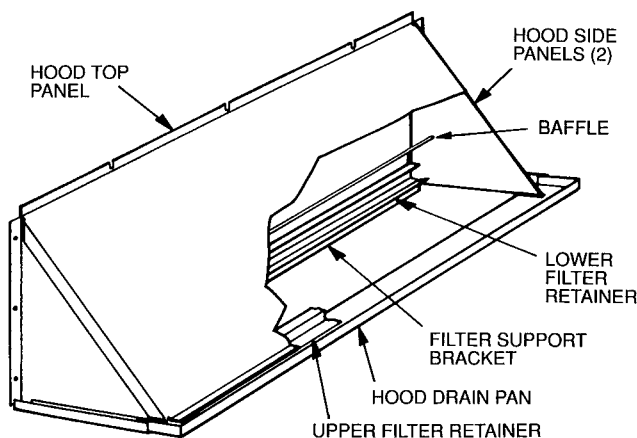

Fig. 19 — Outdoor-Air Hood Details
2. Assemble hood top panel and side panels, upper filter retainer, and hood drain pan (Fig. 19).
3. Secure lower filter retainer and filter support bracket to unit. See Fig. 19. Leave screws loose on 020-028 units.